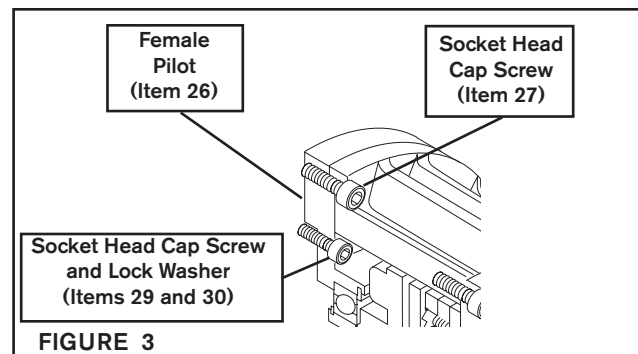

FIGURE 3
7. On the Models 875 and 1125, first remove the Socket Head Cap Screws (Item 27) and Female Pilot (Item 26); then, secure the Female Pilot to the motor face using Socket Head Cap Screws (Item 29) and Lock Washers (Item 30) and tighten them to the recommended torque (See Table 1 and Figure 3).
On Model 875, secure the Housing (Item 1) to the Female Pilot (Item 26) using Socket Head Cap Screws (Item 27) and tighten them to 8.7 Ft. Lbs. [11.8 N•m] torque (See Figure 3).